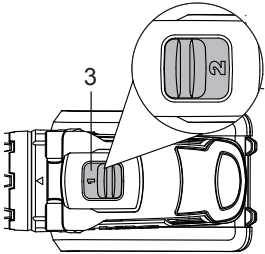

Fig. 13
The two-speed gear control (4) is used to switch between two working modes. When the gear is set to position 1, the speed will decrease and the drill will have greater power and torque. When the gear is set to position 2, the speed will increase and the drill will have less power and torque (Fig. 13)